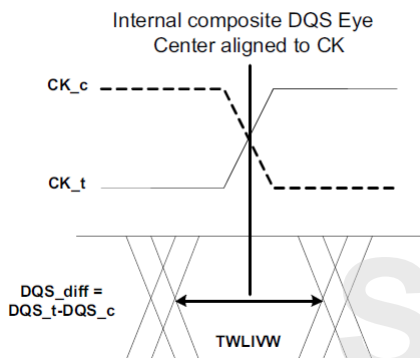

Figure 25. DQSt/DQSc to CKt/CKc timings at the DRAM pins referenced from the internal latch
28)  $t_{WLIVW}$  is defined in a similar manner to  $t_{DQSV}$ , except that here it is a DQS input valid window with respect to CK. This would need to account for all VT (voltage and temperature) drift terms between CK and DQS within the DRAM that affect the write-leveling input valid window. The DQS input mask for timing with respect to CK is shown in Figure 25. The "total" mask ( $t_{WLIVW}$ ) defines the time the input signal must not encroach in order for the DQS input to be successfully captured by CK with a BER of lower than tbd. The mask is a receiver property and it is not the valid data-eye.